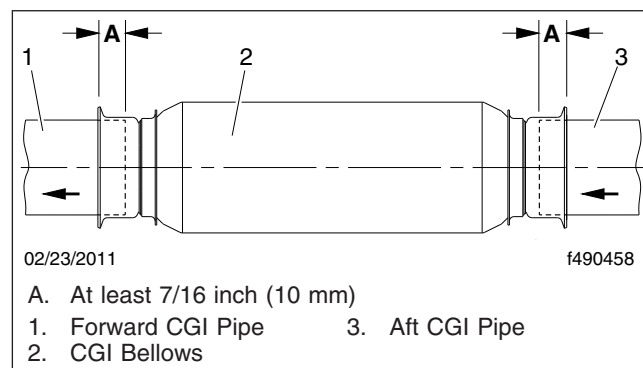

Fig. 11, CGI Bellows Installation
12. Slide the new bellows onto the aft CGI pipe as far as it will go. See **Fig. 11**, Ref. A. Measurement A should be at least 7/16 inch (10 mm) past the face of the flange.
16. Using the yellow marks, center the bellows between the exhaust pipes. Verify that the pipe is inserted at least 7/16 inch (10 mm) past the face of the flange. See **Fig. 11**, Ref. A.